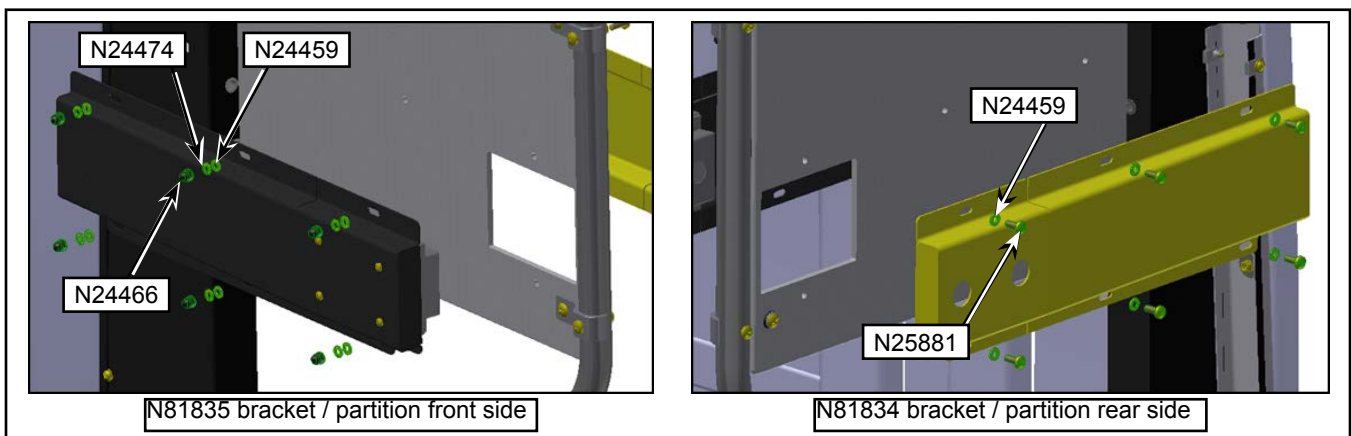

Figure 5 - Bracket Installation on Partition
1.9. Install the N81835 bracket with the sensor on the front side of the partition and install the N81834 bracket on the rear side of the partition using N25881 screws (6x), N24459 flat washers (12x), N24474 lock washers (6x) and N24466 domed cap nuts (6x). See Figure 5.